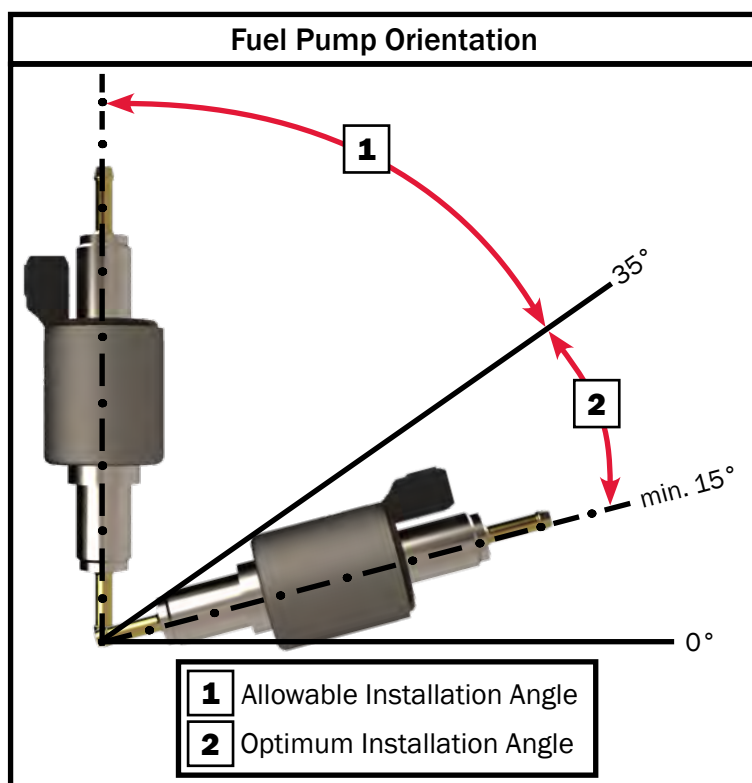

Figure 92
- The outlet of the fuel pump is required to be installed upwards. The angle should be between 15°-35°. See Figure 92 for fuel pump orientation.